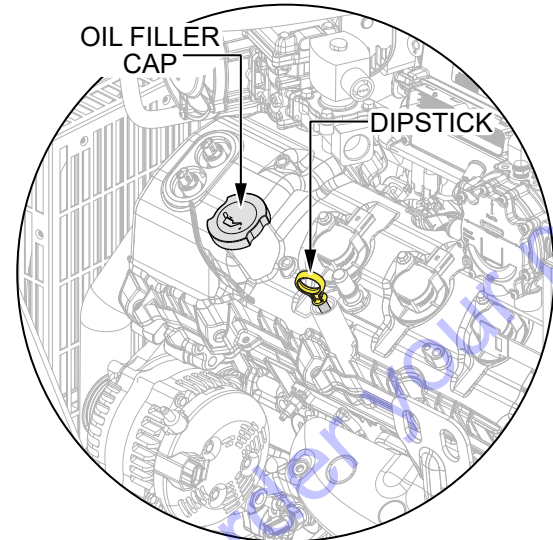

Figure 61. Engine Oil Components
2. Pull the engine oil dipstick (Figure 61) out of its holder and wipe it with a clean rag.
5. If the oil is below the lower mark on the dipstick, remove the oil filler cap (Figure 61) and add engine oil up to the upper mark on the dipstick. Refer to Table 6 for recommended oil viscosity.
2. Remove the oil filler cap (Figure 61) to allow the oil to drain easily.